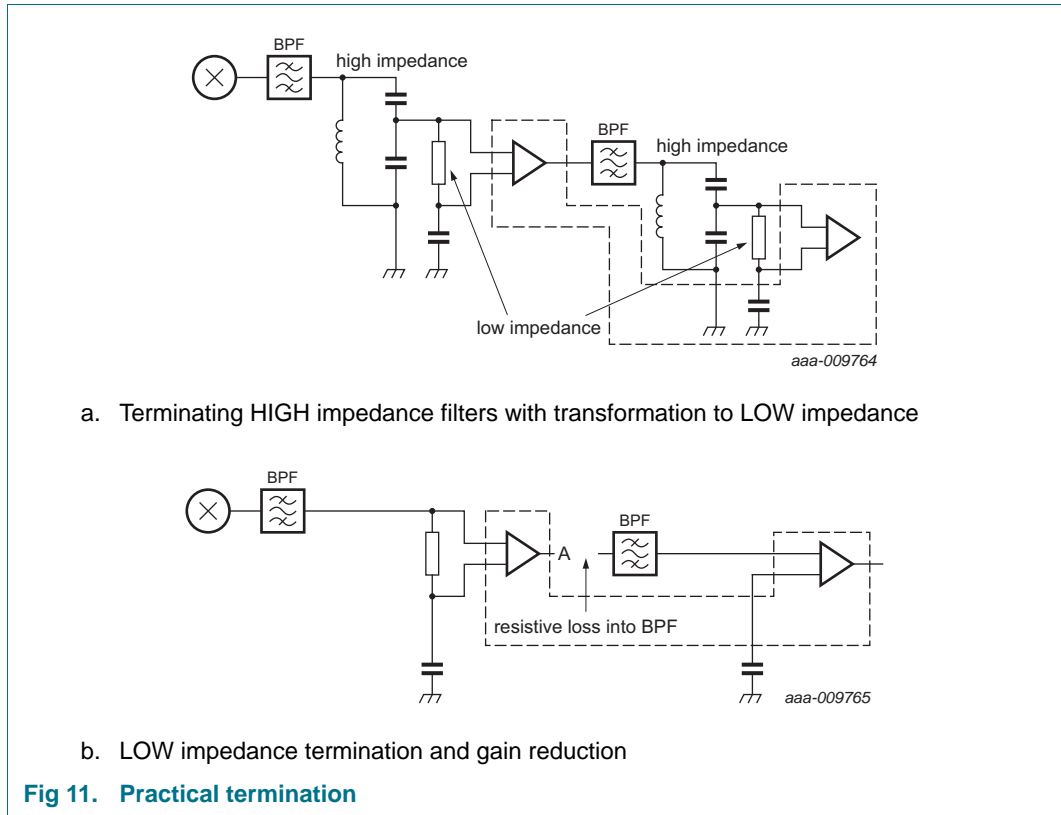

Fig 11. Practical termination
3. Reduce the gain. Gain reduction can effectively be accomplished by adding attenuation between stages which can also lower the input impedance. Examples of impedance/gain adjustment are shown in Figure 11. Reduced gain results in reduced limiting sensitivity.
At 455 kHz, if the layout of Figure 17 or one substantially similar is used, ceramic filters can be connected directly to the input and between limiter stages with no special consideration. At frequencies above 2 MHz, some input impedance reduction is usually necessary. Figure 11 demonstrates a practical means.